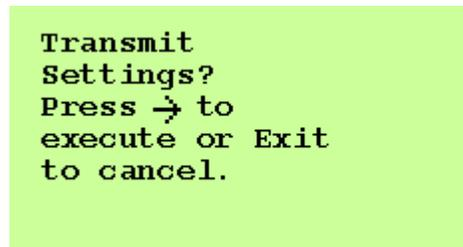

Figure 14, Confirmation Screen
- *Remote Settings* - Press the [→] to go to an abbreviated version of the *Settings* menu of the remote chassis. Changes will be done in the same fashion as before for *Settings*. Once changes have been made, press the [EXIT] button. After pressing the [EXIT] button, the screen will display the message in Figure 14 to confirm your changes.